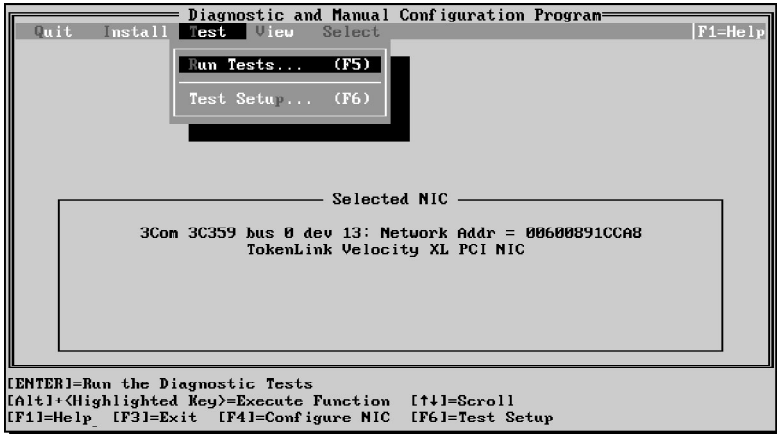

Figure 3-1 Configuration and Diagnostic Program Window
The Configuration and Diagnostic Program window is displayed as shown in Figure 3-1.
- 4 Record for future reference the 12-digit universal token ring address displayed on the Diagnostic and Configuration Program window (Figure 3-1). For example:**